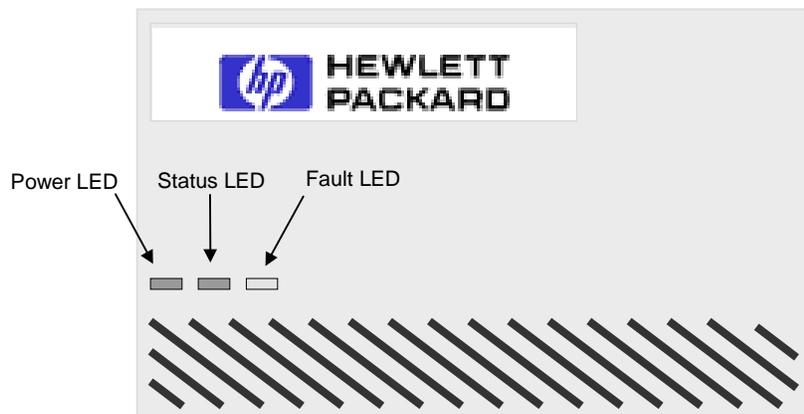
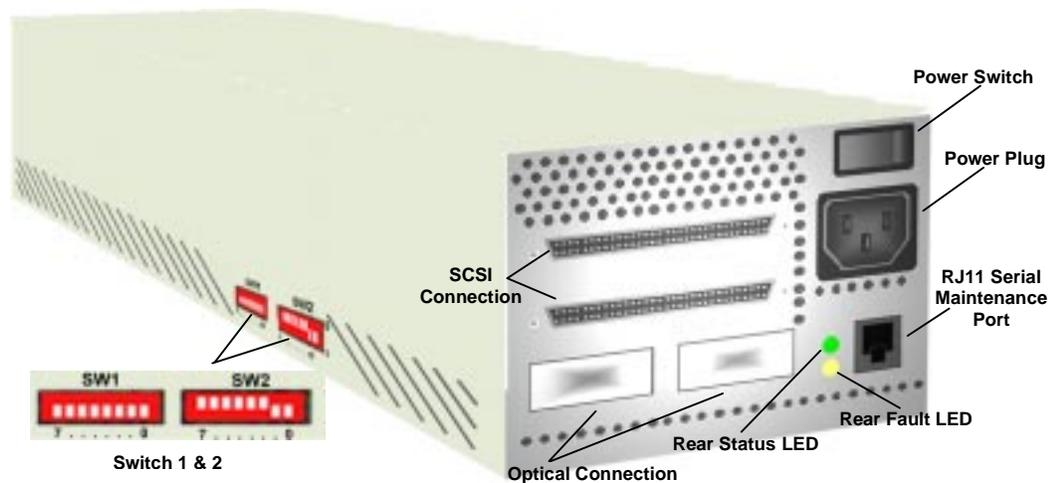

Figure 3-1. SCSI-FC Router Front Panel
Figure 3-2. SCSI-FC Router Rear Panel
- To locate switch one (SW1), see Figure 3-2.
- To locate the SCSI-FC Router SCSI connector, see Figure 3-2.
- To locate switch one (SW1), see Figure 3-2
- ☐ Are the SCSI-FC Router's status LED (green) and the power LED (green) solid-on and the fault LED (yellow) off. (For LED location, see Figure 3-1 and Figure 3-2).
- See Figure 3-2. SCSI-FC Router Rear Panel for power switch location.
- See Figure 3-2 for power switch location if necessary.
The SCSI-FC Router mode is selected by utilizing the DIP switches in SW2 (for SW2’s location, see Figure 3-2. SCSI-FC Router Rear Panel). The SCSI-FC Router power must be cycled to effect a change in mode. The first four DIP switches are independent of the other DIP switches on switch 2 (SW2).